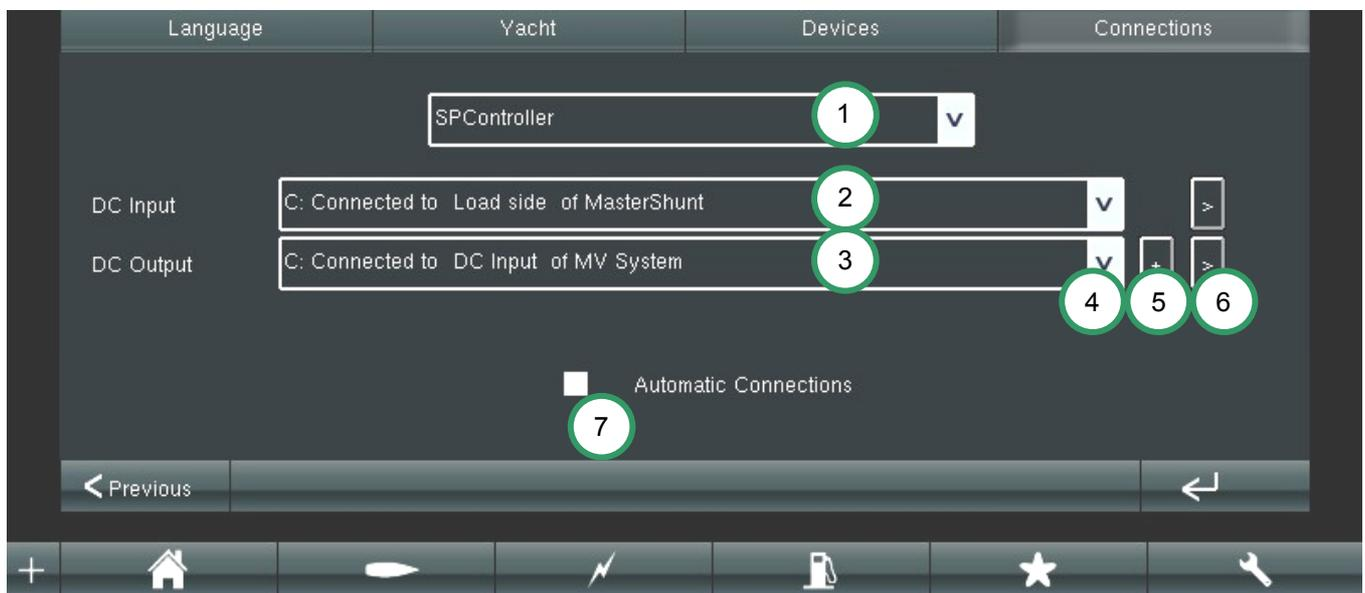
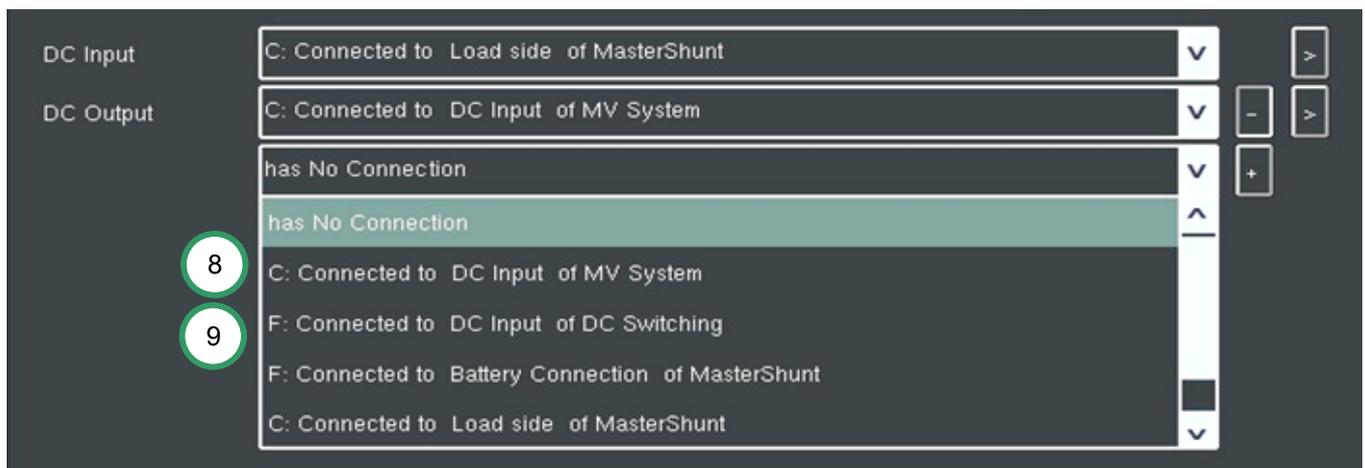

Figure 16: Connections
Figure 17: Adding a connection
The Connections page shows all AC and DC connections of the Devices in System box (see previous section). See figure 16. In the upper box (1) a connected MasterBus device can be selected to display their connections. Box (2) then shows the DC input of the selected device, box (3) shows its DC output connections. In case there are more device connections, the arrow (4) on the right enables selecting the other connections in a pull down screen. In the example shown the MasterShunt load side is connected to the DC input of the System Panel Controller.
See figure 16 and 17. If you touch the “+” (figure 16, point 5) and the “v” (figure 16, point 4), a connections pull down menu like figure 17 appears. Default the description “has no Connection” is
shown. To add a connection, select an option in the menu. Figure 17, point 8: the “C” means Connected, point 9: the “F” means Free to connect.